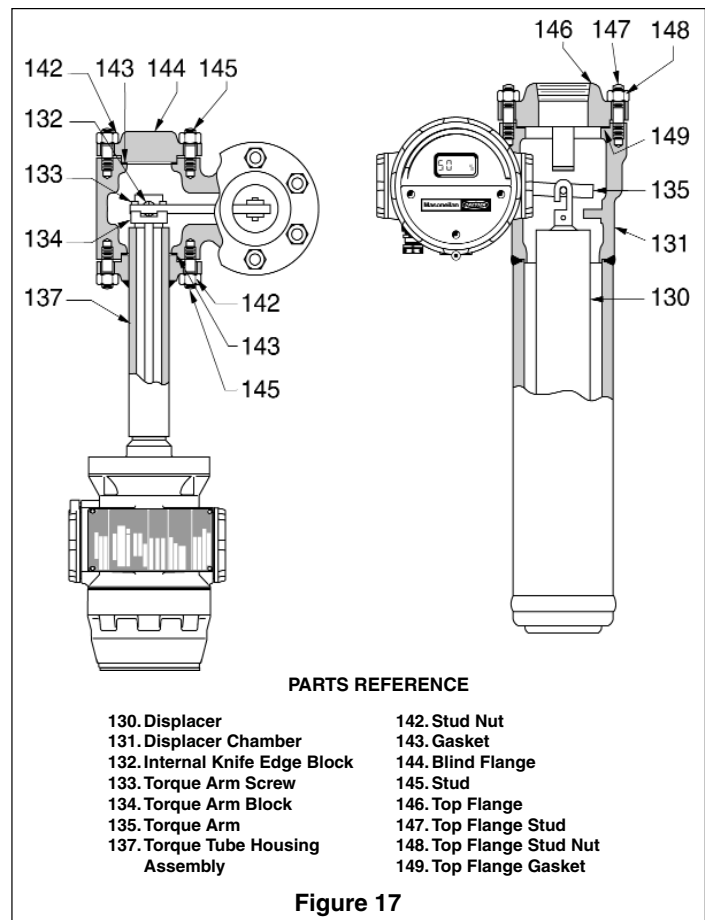

Figure 17
- b. Using a 5 mm hex wrench, remove plugs (115).
- d. With the finger, move the flexure (59) until it seats on the shoulder of the screw opposite to displacer. Adjust screw (114) until LCD displays a value as near as possible of [0.000].
- e. Move the flexure (59) until it contacts the shoulder of the displacer side screw. Adjust screw until LCD displays a value as near as possible of [1.000].
6.3 Removing a DLT Case and Torque Tube Sub-assembly (see Figure 17)
- Remove upper flange (146) and blind flange (144).
- Lower the torque arm (135) and unhook the displacer (130). A hook-shaped 3 mm steel wire will facilitate unhooking and holding of the displacer. The wire may be inserted through the clevis hole.
- Remove the two torque arm screws (133) and remove the torque arm (135) from the chamber.
- Remove displacer from its chamber (131) or tank.
For installation, reverse the procedure outlined for removing a DLT case and torque tube subassembly (Section 6.3). It is recommended that new gaskets (143 - 149) be used when installation is performed, (refer to Figure 17).
6.5 To Reverse Instrument Case Mounting Relating to Displacer Position (Left or Right) (Figures 17, 19 to 21)
- Install the case/torque tube subassembly on the opposite side of mechanism chamber [in place of flange (144)] and open the cover (107) of the mechanism compartment. It is recommended that you install a new gasket (143) when reassembling.
- Using a 2,5 mm hex wrench, loosen the screw (62) of beam (54) to uncouple it from the torque rod.
- Replace the displacer in the chamber (131) or in the tank and hold it temporarily with a 3 mm steel hook.
- Insert torque arm (135) in mechanism chamber and assemble it to plate (134) by two screws (133).
- Lower the free end of the torque arm (135) and hook the displacer (130). Reassemble the top flange (146) and blind flange (144) using new gaskets (149 & 143).